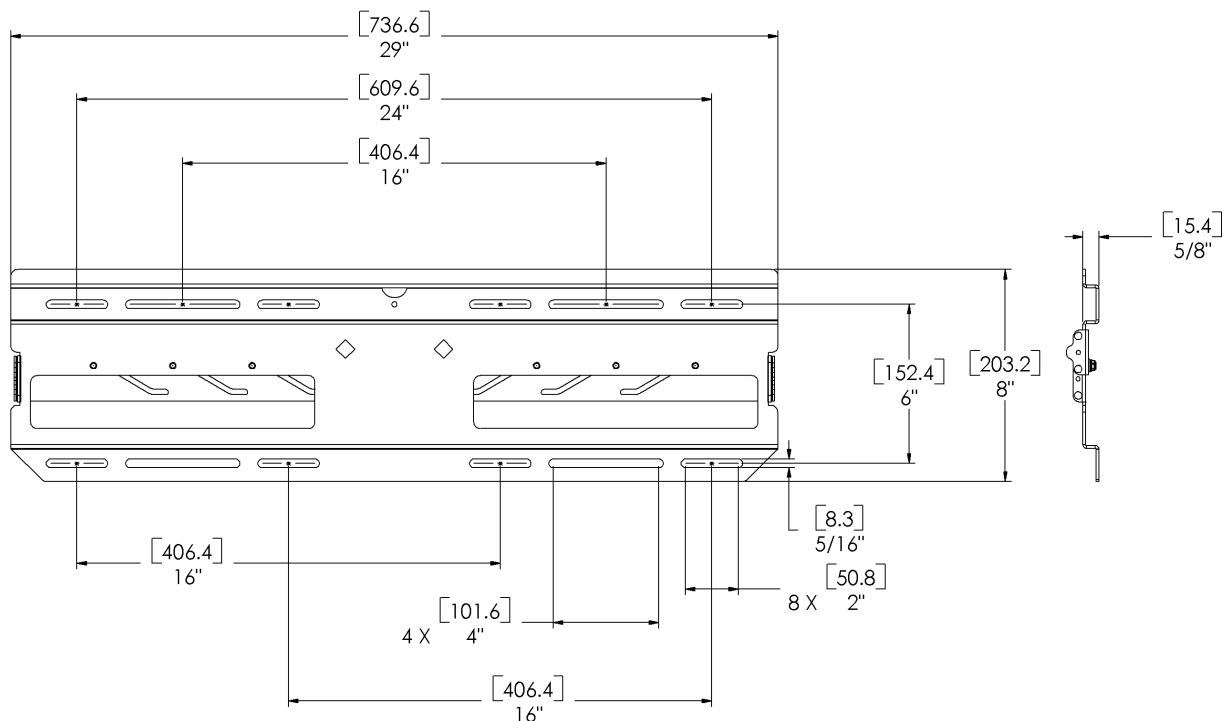

Figure 8. Lag Bolt Installation
1. Determine a suitable mounting location and lift the wall plate (10) into place. See "PARTS LIST" on page 4. and Figure 8.
3. Level the wall plate (10) and drill pilot holes for anchoring the wall plate. If drilling into wood studs, use a 15/64" drill bit.
4. Using four 5/16" lag bolts (210) and 5/16" washers (220), install the wall plate on the wall.